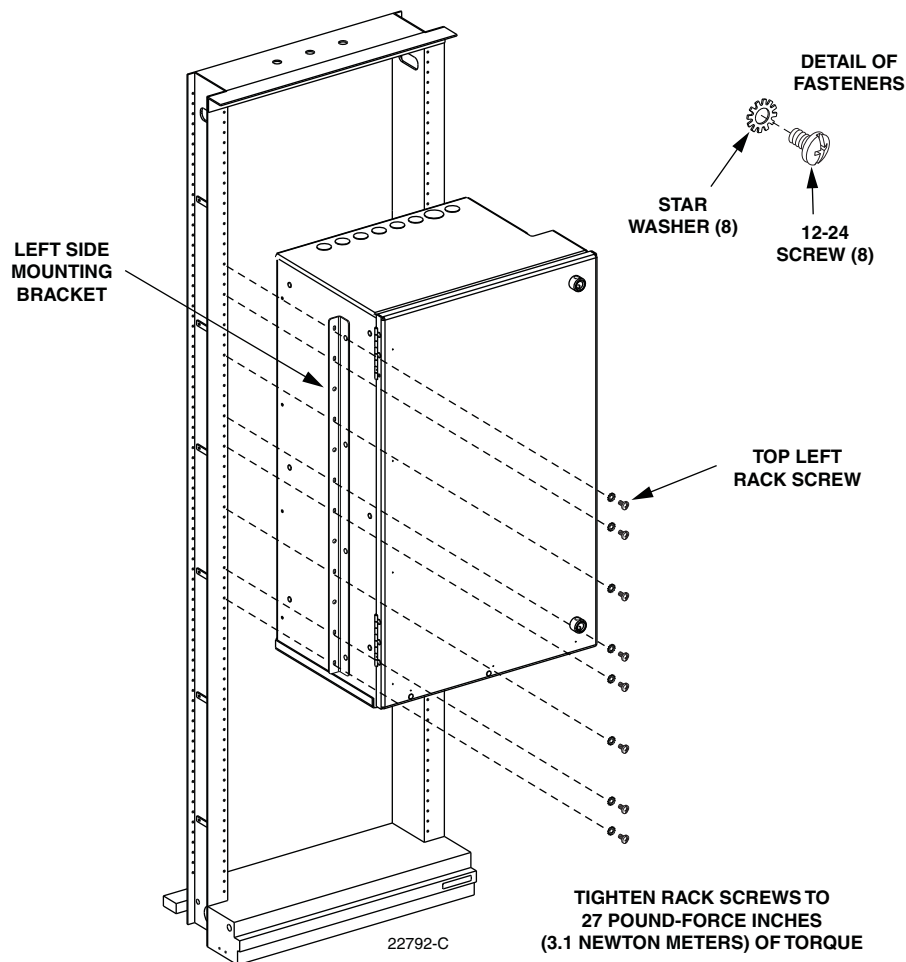

Figure 7. Placement of Cabinet in Equipment Rack
13. Place the cabinet in the specified mounting space within the equipment rack as shown in Figure 7.
14. Install a single 12-24 rack screw (with star washer) in the top hole of the cabinet's **left** side mounting bracket (see Figure 7).